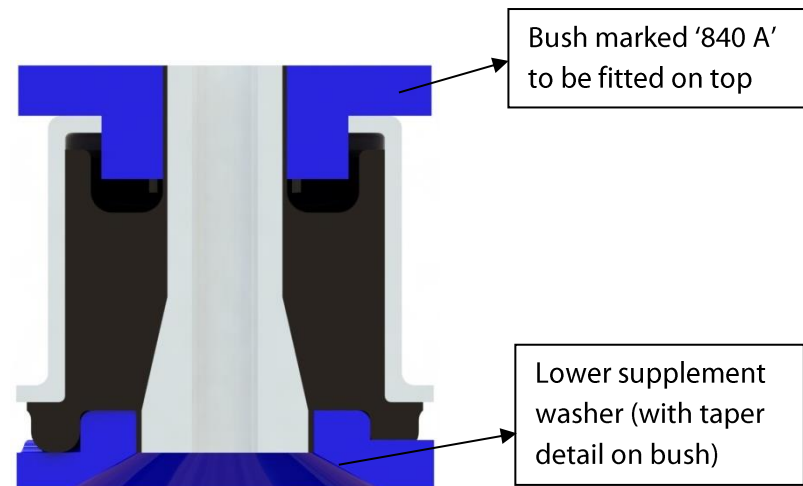

Figure 3: Bush arrangement
- Then, install the polyurethane supplement washer with reference to Figure 3 below.